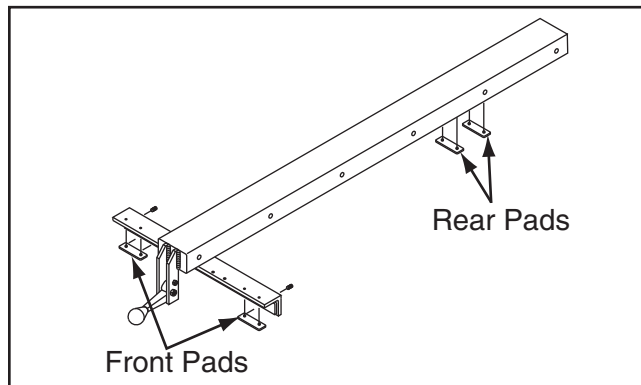

Figure 122. Fence pad locations.
3. Check fence support pads. Over time, pads illustrated in **Figure 122** will wear. Replace if they appear worn.